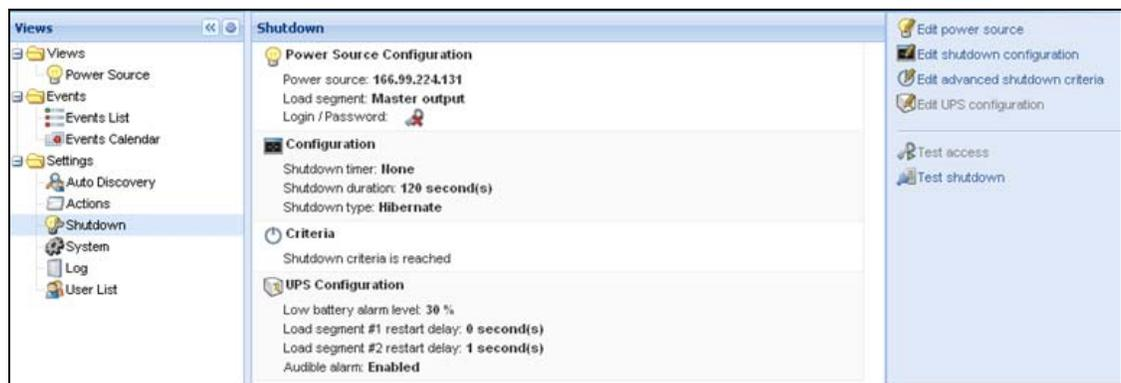

Figure 75. USB/Serial Power Source on Shutdown Page
1. From the left-side **Views** panel of the Eaton IPM main interface window, select the **Settings > Shutdown** menu item. The Shutdown page displays (see Figure 75).